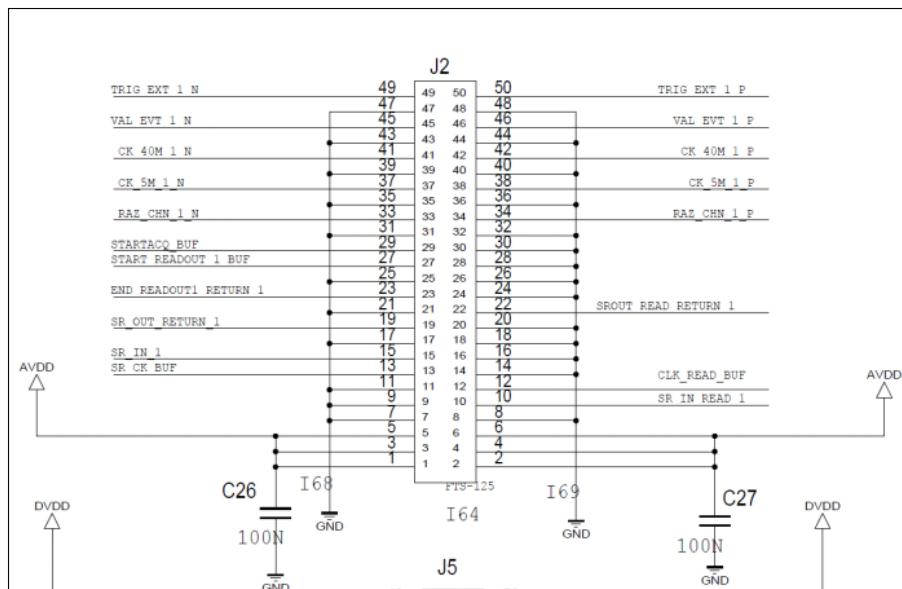

Figure 1.5: J2 connector pin-out
2. Then take a 50 pins flat cable (that you are then going to connect to the J2 connector). Cut in the middle the wires number 13, 49 and 50 (SR\_CK\_BUF, TRIG\_EXT\_N and TRIG\_EXT\_P respectively). Refer to Figure 1.5 for the flat cable pin-out. Strip the “ASU end” of these wires. By ASU end I mean the end that is not to be connected to the interface but to the ASU. If needed do the same for the other flat cables coming out the connectors J6, J8 and J10.